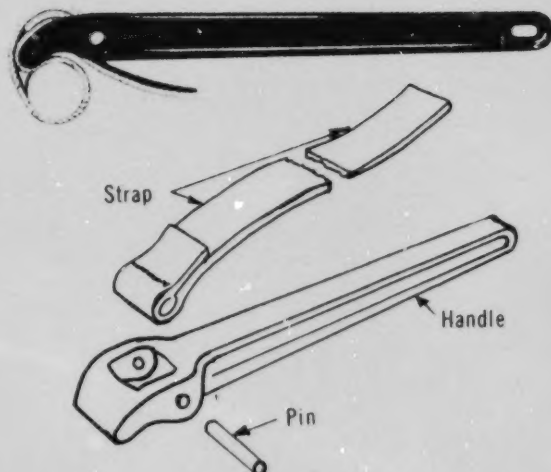

Figure 1-136. Strap Wrench
- a) The strap wrench shown in Figure 1-136, when correctly used, will not normally mar the chrome finish on a pipe when tightening it in place.